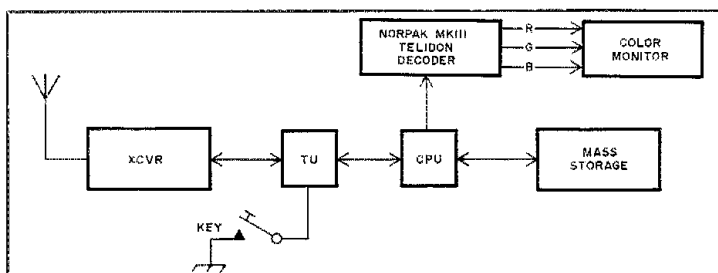

Fig. 1 — Block diagram of the station set up used for the Telidon tests.
The equipment configuration at each station is shown in Fig. 1. Each station used a transmitter capable of producing 130 to 200 W on RTTY and a receiver with a homemade RTTY demodulator or terminal unit (TU). VE3FTT used a demodulator based on the Exar 2211 chip using Exar application notes for the design.^{5,6,7} VE3GQW used a DT-600 demodulator described in the Feb. 1976 issue of *Ham Radio*.⁸ Both units were optimized for the somewhat unusual baud rates used in the tests.